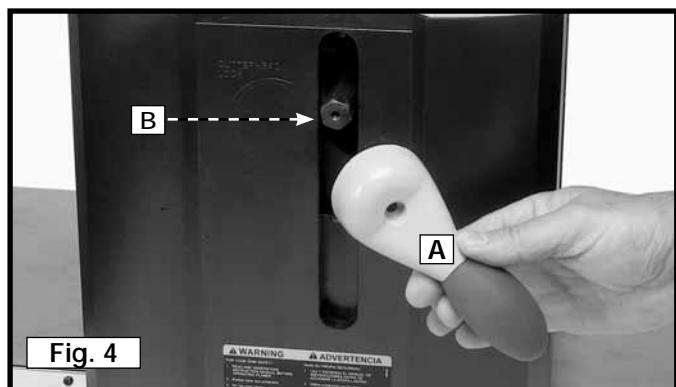
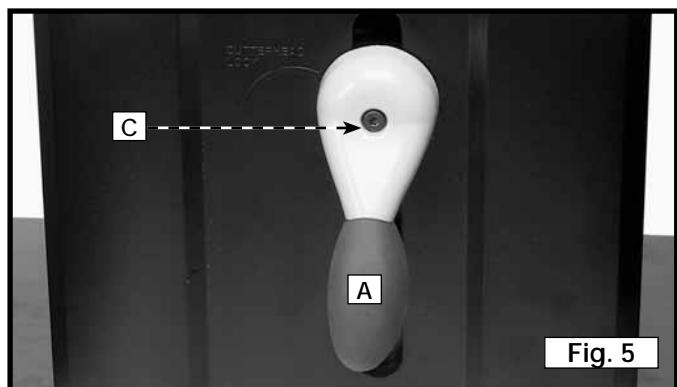

Fig. 4
Fig. 5
Use the supplied wrench to attach the cutterhead lock handle (A) Figs. 4 & 5, to the shaft (B) with the M6-20mm hex socket-head screw (C) Fig. 5.